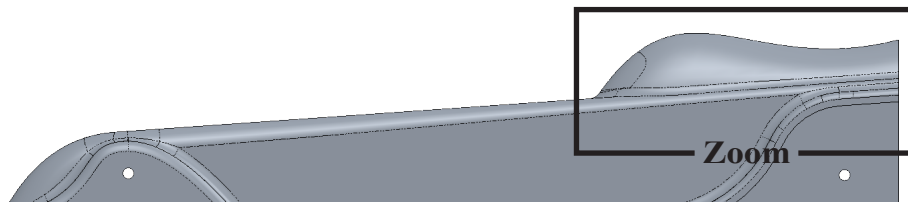

Fig. 138
Step 3. Zoom in around **cockpit**, **Fig. 138**.